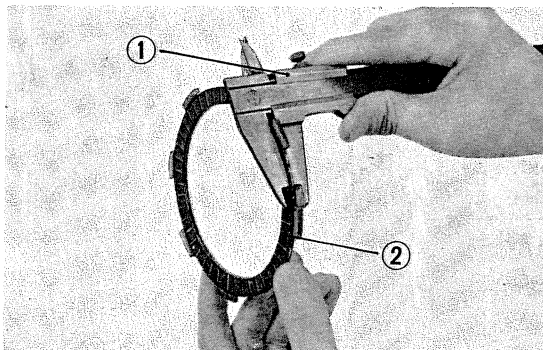

Fig. 67 ① Vernier caliper gauge ② Clutch friction disc
- 1) Clutch friction disc (Fig. 67)